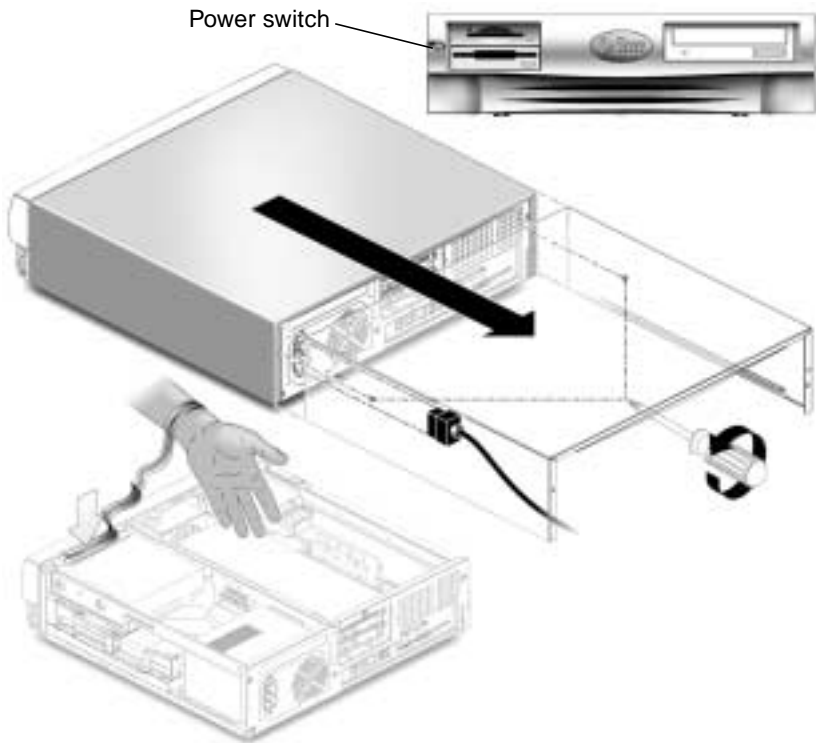

FIGURE 2 Preparing for DIMM Installation
- a. **Press the power switch and immediately release it (FIGURE 2).**
1. **Disconnect the system power cord to ensure that all power is removed from the system (FIGURE 2).**
3. **Attach the copper foil end of the wrist strap to the system chassis to provide a ground for electrostatic discharge (FIGURE 2).**
- 1. Reconnect the system power cord (FIGURE 2).**